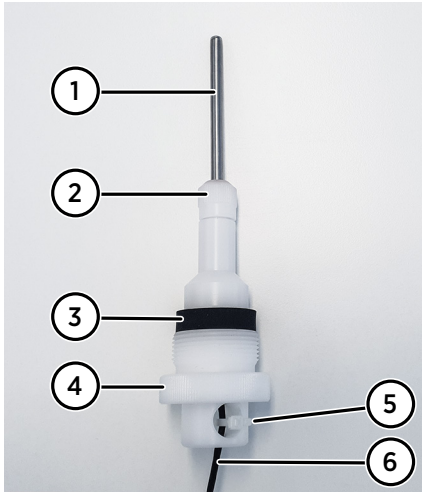

Figure 21 HMP9 probe head with sensor head support 215130
2. Attach the probe head to the sensor head support and secure it with a cable tie. The alternate sensor head support (item code 215130) needed with HMP9 is shown in Figure 21 (page 40).